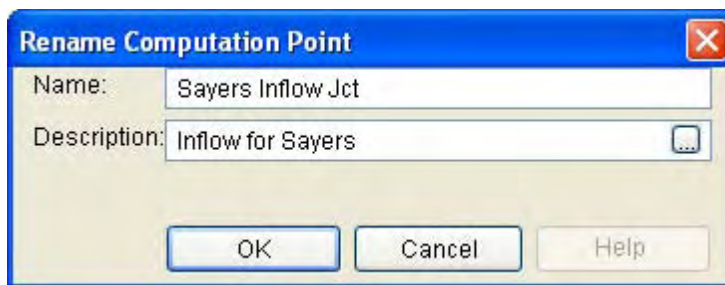

Figure 6.27 Rename Computation Point
4. Use the **Rename** dialog box (Figure 6.27) to edit the name and description. Click the  button to access the **Enter Description** dialog box for longer descriptions.